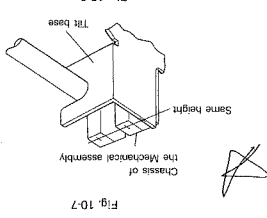

Fig. 10-7
11. Turn the worm gear of the tilt motor so that the tilt base is at the same height as the top of the chassis of the Mechanical assembly. (Fig. 10-7, 10-8)